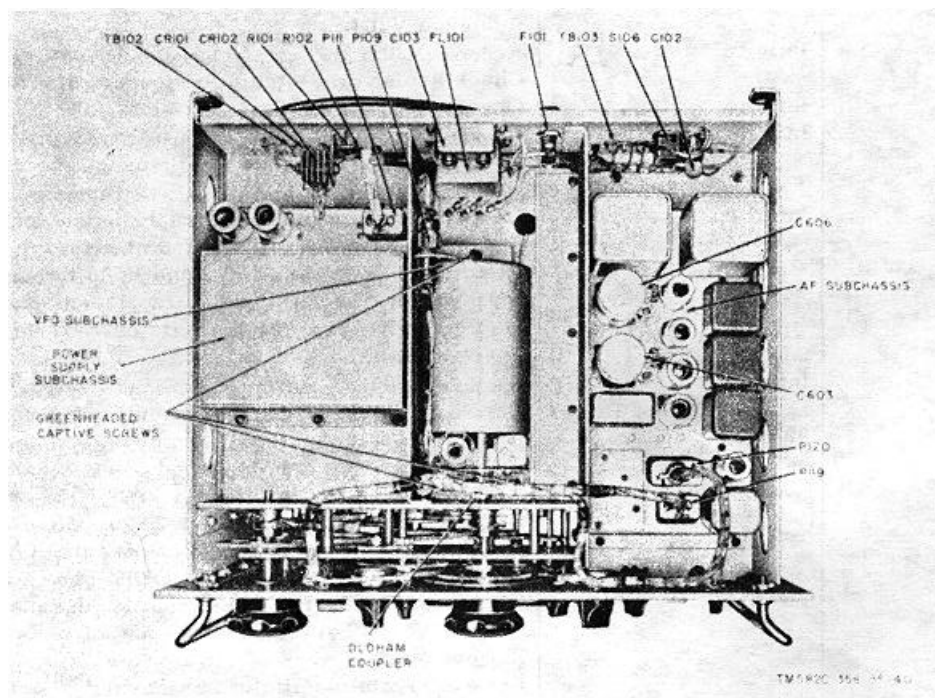

Figure 37. Radio Receiver R-390A/URR, bottom view.
| J811-5                        | Infinite                        | Disconnect P111 (fig. 37) from J811. Connect the TS-352(*)/U between J811-5 and chassis ground. Remove V802.                                                                                                                                                  |
| J619-5                        | 90,000                          | Check plate and screen grid circuit components of V505. Disconnect P119 (fig. 37) from J619, and connect the TS-352(*)/U between J619-5 and chassis ground. Remove V601 through V605.                                                                         |
| J410-CJ709-A                               | InfiniteInfinite             | Check screen grid circuit components of V401.Disconnect P109 (fig. 37) from J709A, and connect the TS-352(*)/U between J709A and chassis groundRemove V701.Caution: If V701 is not defective, be sure to replace the same tube in XV701. If V701 must be replaced by a new tube, make the end point adjustment (para 81).Remove vfo subchassis (para 65) and check plate circuit components of V701.Check screen grid circuit components of V701. |
- (1) Short circuits in the tube heater and/or oven circuits usually blow the AC 3 AMP fuse on the rear panel on the receiver. Disconnect all power/plugs except Pill (fig. 37) from the power-supply subchassis and apply ac power to the receiver. Turn the FUNCTION switch to STAND BY. If tubes V801 and V802 in the power-supply subchassis light and fuse F101 does not blow, the trouble is in one of the other subchassis. If the fuse blows, the trouble is in the power-supply subchassis or main-frame wiring. Follow the procedure in (2) below for locating the tube filament or oven short.
- (2) Remove all tubes and the power plug from the subchassis to be tested. Check between the terminals listed in the chart below and ground,
| 1    | Receiver fails to operate; tubes and dial lamps do not light. (Fuses do not blow). | a. Defective ac power contacts in FUNCTION switch or open filter FL101 (fig. 56).b. Power transformer T801 primary windings open.c. Loose connections or improper wiring to TB801.d. Open 6.3-volt winding. J811-11.e. Open 25.2-volt winding. | a. Disconnect receiver from power source. Disconnect P111 (fig. 37). Check continuity between AC 3 AMP fuse F101 and P111-7. Check FL101 for continuity.b. Check continuity between J811-4 and J811-7 for 115-volt operation; or between J811-4 and J811-7, and J811-6 and J811-7 for 230-volt operation.c. Remove power-supply subchassis (TM 11-5820-358-20) and check TB801.d. Check continuity between J811-10 ande. Remove V801 and V802. Check continuity between J811-1 and J811-11. |
| 1    | No line or local af output.             | a. No B+ to af circuits.b. Defective first af amplifier or af cathode follower stage.c. Defective break-in relay K601. | a. Disconnect receiver from power source. Disconnect P111 and P119 (fig. 37). (Check for continuity between P111-5 and P119-5. Remove af subchassis (TM 11-5820-358-20). Check for open L601 or L603 by continuity test between NO603 pin 7, and J619-5 (fig. 51 and 52).b. Check circuit components of V601 (fig. 51), including P120 and audio response switch S104 (fig. 56).c. Check K601 contacts (fig. 51). |
| 1    | No audio output when receiver is tuned to any station.                            | a. Defective if. amplifier stage.b. No B+ to if. circuits. | a. Use signal substitution (para 47) to find defective stage. Check circuit components of defective stage.b. Disconnect P119 (fig. 37) from J619. Check for open filter choke L601 or L602 by testing for B+ at J619-2. Reconnect P119 and disconnect P112 (fig. 36). Check for B+ at P112-2. If B+ is present at J619-2 and not at P112-2, the trouble is in FUNCTION switch or main frame wiring (fig. 87). |